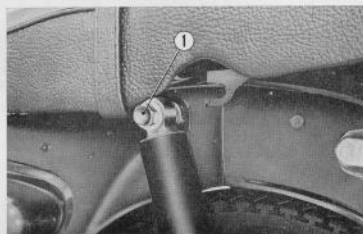

Fig. 4.52 Loosen upper rear cushion cap nuts
- Loosen the upper rear cushion mounting cap nuts ① from the right and left side. (Fig. 4.52)